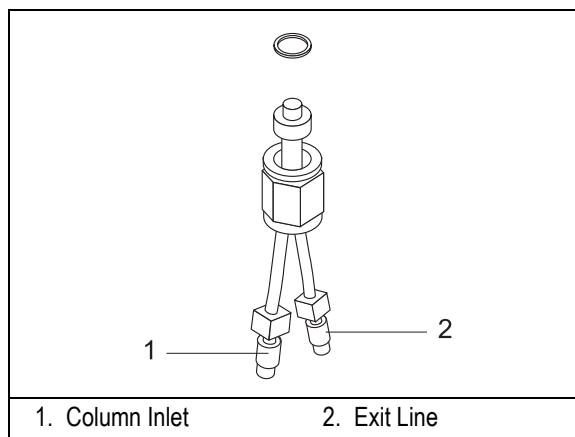

Figure 15-8. Two-Way Capillary Adapter
1. Attach the two-way capillary column adapter (shown in Figure 15-8) to the lower end of the detector base body and tighten it by using 10 mm wrench.